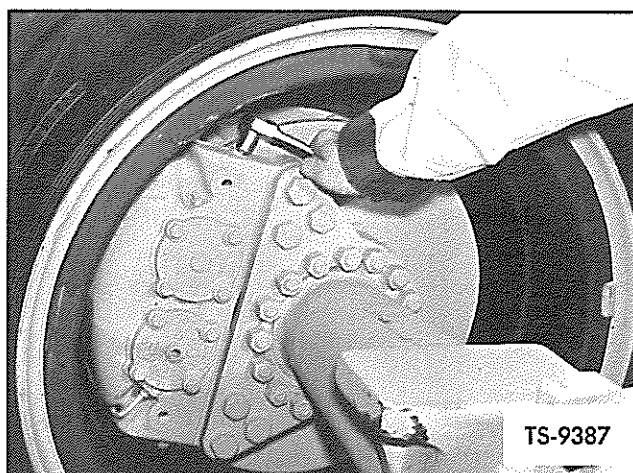

Fig. 10. Tighten Locking Bolts
12. Retighten locking bolts, making sure bolts seat in groove in retaining pins. See Figure 10.